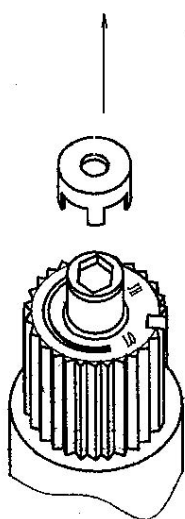

Figure 1
10. If your valve is convertible. Using the tip of your fingers, remove the black cap from top of knob. See Figure 1.